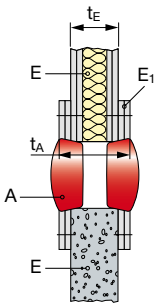

Figure 3: Blank wall seal, no services
Flexible wall, figure 3, top section (E)
Rigid wall, figure 3, bottom section (E)
Blank wall seal, no services, figure 3:
ABBREVIATIONS USED IN FIGURES 3, AND 4